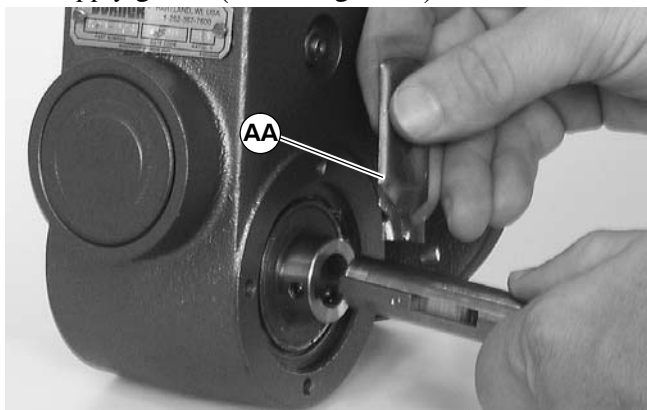

Figure 21
10. Apply grease (AA of Figure 21) to shaft.